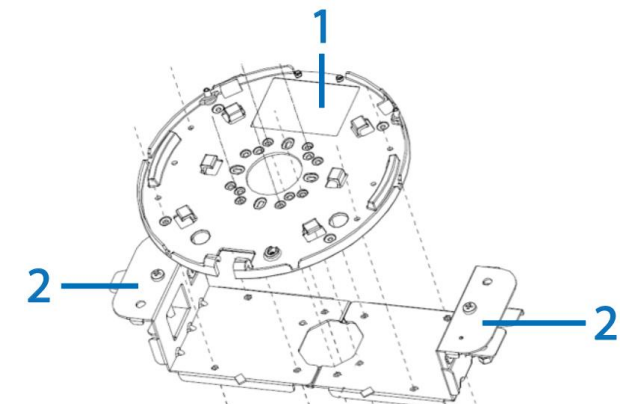
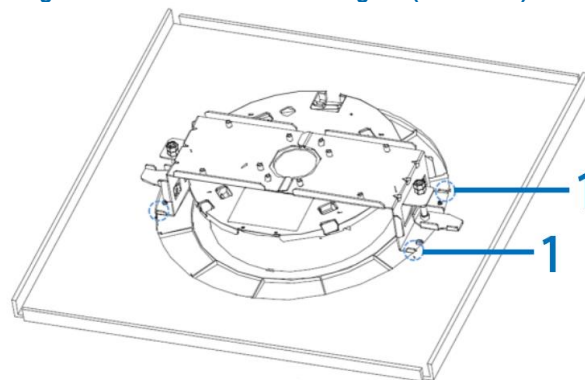

Figure 4
Figure 7
3. Align both recessed mount brackets (2) (Figure 4) together and place the mount plate (1) (Figure 4) on top of both recessed mount brackets and align the eight holes on the mount plate with the eight holes on the recessed mount brackets.
Note: The recess mount metal bracket's stops (2) (Figure 4) must rest against the edge of the tile's 400mm circle (1) (Figure 7), before the 'mounting clips' are secured for the camera assembly to be centralized in the recess mount tile.